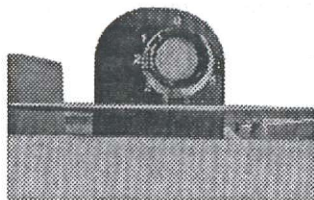
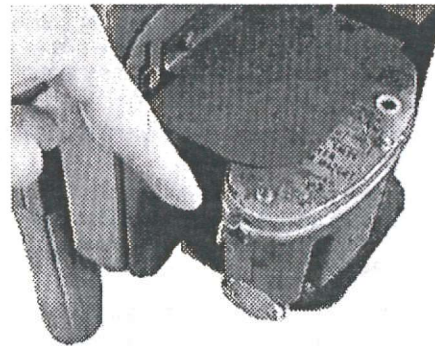

Figure 14
Figure 15
4. Set the control knob to "0" (figure 14). Depress safety lever to allow oil flow into the regulator (figure 15).